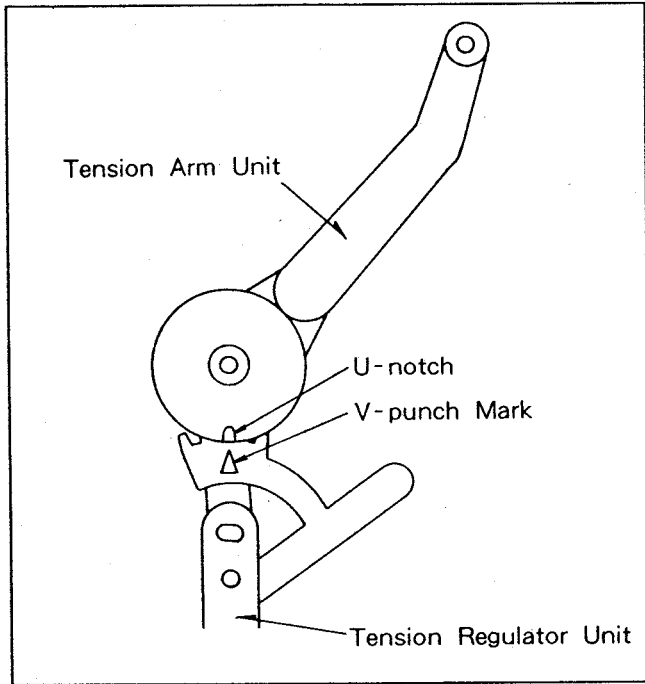

Fig. A8
- 45) Reinstall the tension arm so that the U-notch on the tension arm unit aligns with the V-punch mark on the tension regulator assembly. See Fig. A8.